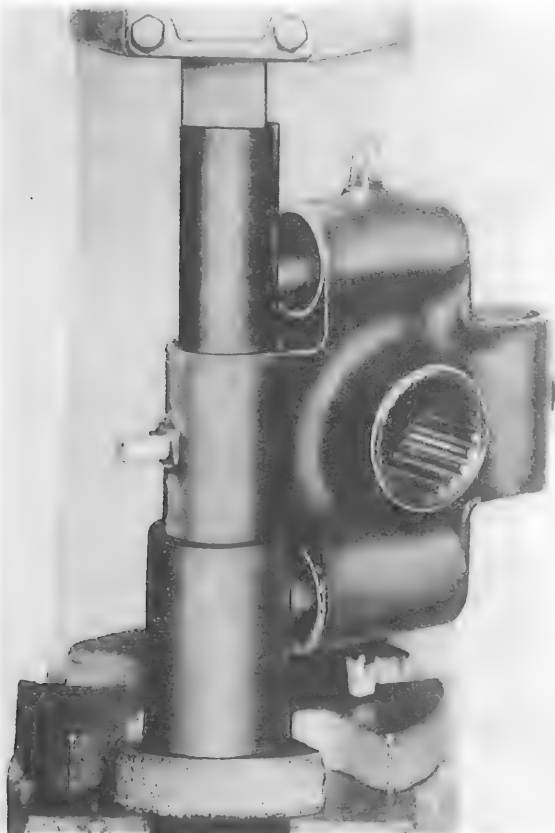

Figure 6-12. Pressing Out Seats, Bearings, Spacer, and Inner Race
a. Remove lubrication fittings (27) from hub assembly (1).
b. Support hub assembly (1) on a hollow cylinder, position drift cylinder, part No. S1670-10305, on seal (26) and inner race (22), and press out seals (21 and 26), bearings (23 and 25), spacer (24), and inner race from hub assembly (1). (See figure 6-12.)